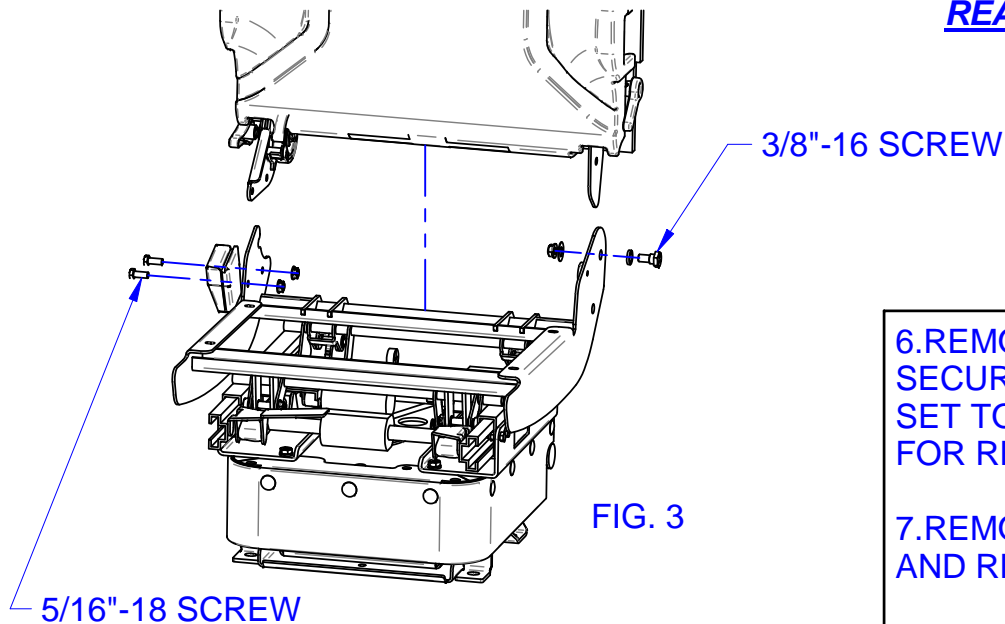

FIG. 3
6. REMOVE (2) 5/16"-18 SCREWS AND (1) 3/8"-16 SCREW SECURING THE BACK ASSEMBLY TO THE CUSHION FRAME AND SET TO THE SIDE. NOTE SEQUENCE OF WASHER AND SPACER FOR REASSEMBLY. DISCARD HARDWARE. (FIG. 3)